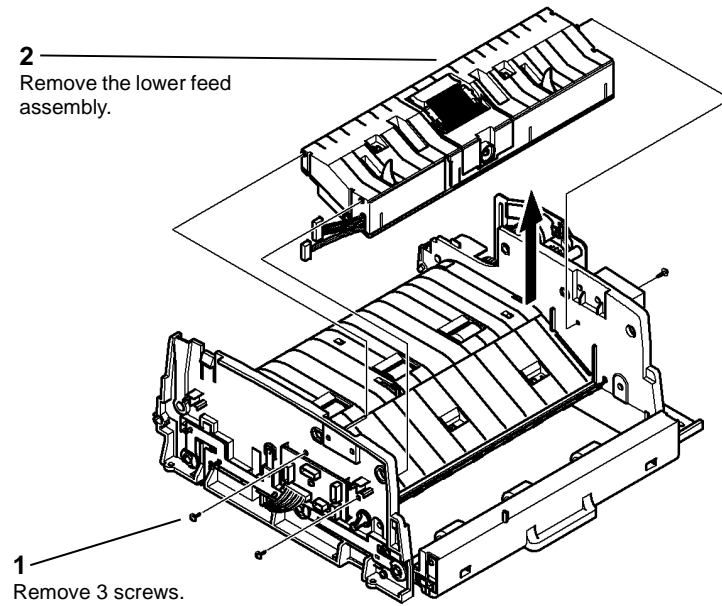

Figure 15 Lower feed assembly removal
16. Remove the lower feed assembly, Figure 15.